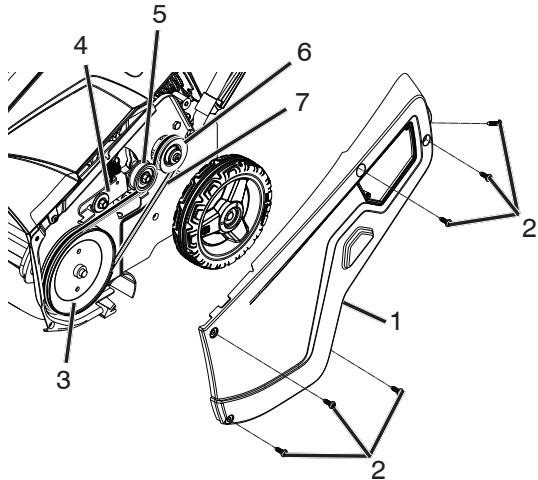

Figure 32
1. Remove the drive side cover by removing the six screws as shown in (Figure 32).